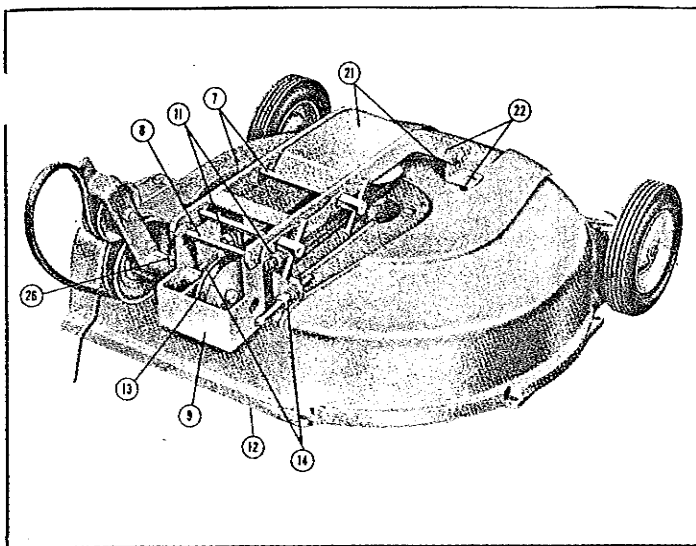

Fig. 2
2. Mount the two wheels as shown at (1). Notch (2) in wheel axle (3) must be positioned to allow lock pin (4) to enter casting hole. Lock pin is held in place by latch as shown at (5).
3. Bolt deflector (6) into position as shown.
NOTE: Quick-Hitch (7, Fig. 2) is inserted in 1st and 3rd holes from back of push arm for tractors rated 5 H.P. and above, and in 2nd and 4th holes for lower powered tractors. Pivot pin (8) should be inserted in lower holes of drive bracket assembly (9) for tractors rated at 5 H.P. and above, and in upper holes for smaller model tractors.
5. Height of housing should be adjusted on a flat hard surface, such as driveway or walk. Place front wheels in top hole (10). Loosen nuts (11, Fig. 2) and adjust housing height so that back of housing (12) is $1\frac{1}{8}$ " to $1\frac{1}{2}$ " above surface. Tighten nuts (11) securely so brackets will not slip in slot. This adjustment prevents scalping.
6. Adjust tension on arbor belt (13) by tightening nuts at (14). Avoid excessive tension. Springs should not be compressed all the way. Allow a slight flex in the belt.